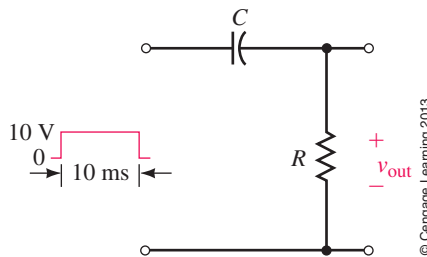

FIGURE 11–65
43. A switch (not shown) is closed to apply E volts to the circuit of Figure 11–66. If $R = 150 \text{ }\Omega$ and $C = 20 \text{ pF}$, estimate the rise time of the output voltage.